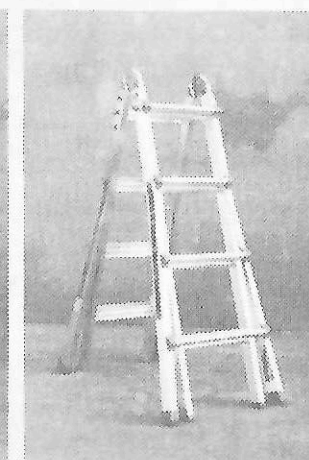

Figure A-3
2. Stepladder position (FIGURE A-3)
1. From its stored position, pull the two ladder halves apart until both hinges lock into the stepladder position. (FIGURE A-3).